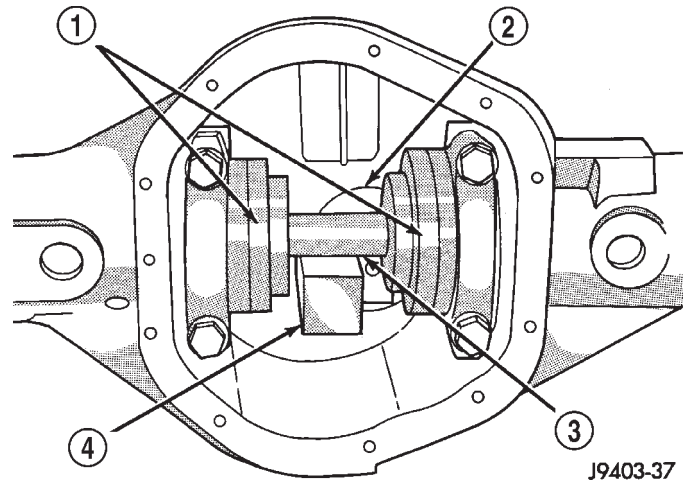

Fig. 81 Gauge Tools In Housing—Typical
(4) Place Arbor Disc 6732 on Arbor D-115-3 in position in axle housing side bearing cradles (Fig. 81). Install differential bearing caps on Arbor Discs and tighten cap bolts to 41 N·m (30 ft. lbs.).